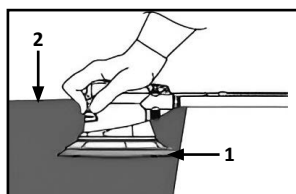

Fig. 4
2. Place the sanding pad (1) of the air sander over the workpiece (2) to be smoothed. (Fig. 4)